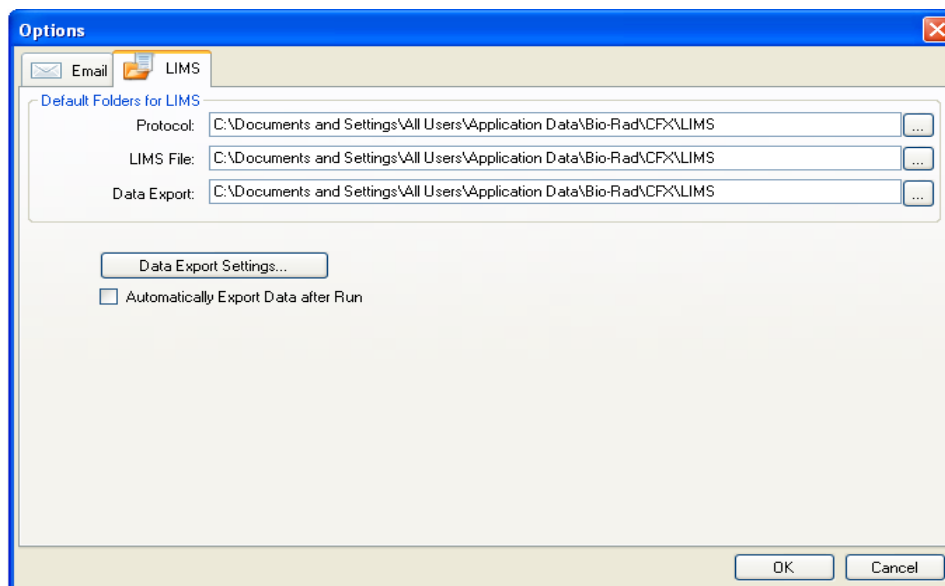

Figure 111. Options window displaying the LIMS settings tab.
2. At run completion, a LIMS data export file can be automatically generated in addition to the CFX Manager software *.pcrd data file. Check the **Automatically Export Data after Run** (Figure 111) box to have the data exported automatically once a run is completed.
Upon run completion, a CFX Manager software data (.pcrd) file is generated and saved to the defined data export folder location (Figure 111).